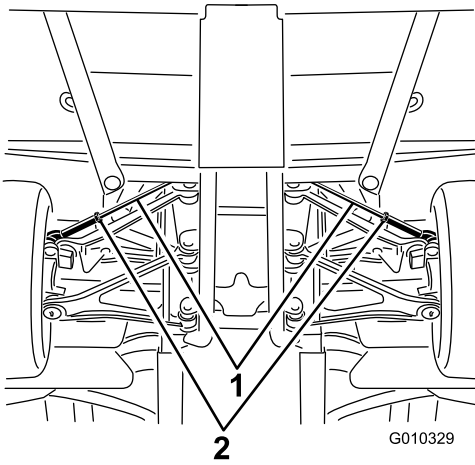

Figure 59
- A. Loosen the jam nut at the center of the tie rod (Figure 59).